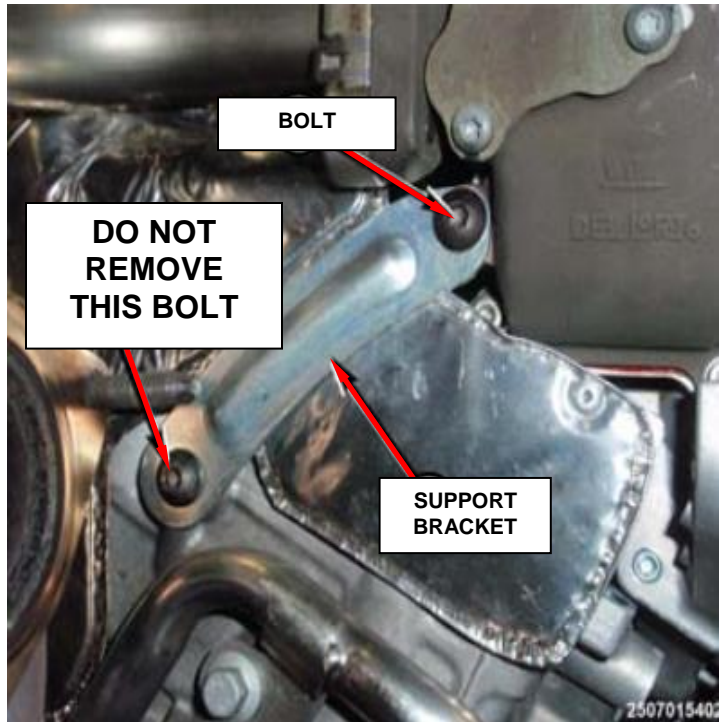

Figure 40 - Bracket Mount Bolt
16. Remove the top bolt at the rear of the EGR cooler bypass valve support bracket (Figure 40).
23. Install the **NEW** bolt at the rear EGR cooler bypass valve support bracket and tighten to 25 N·m (18 ft. lbs.) (Figure 40).